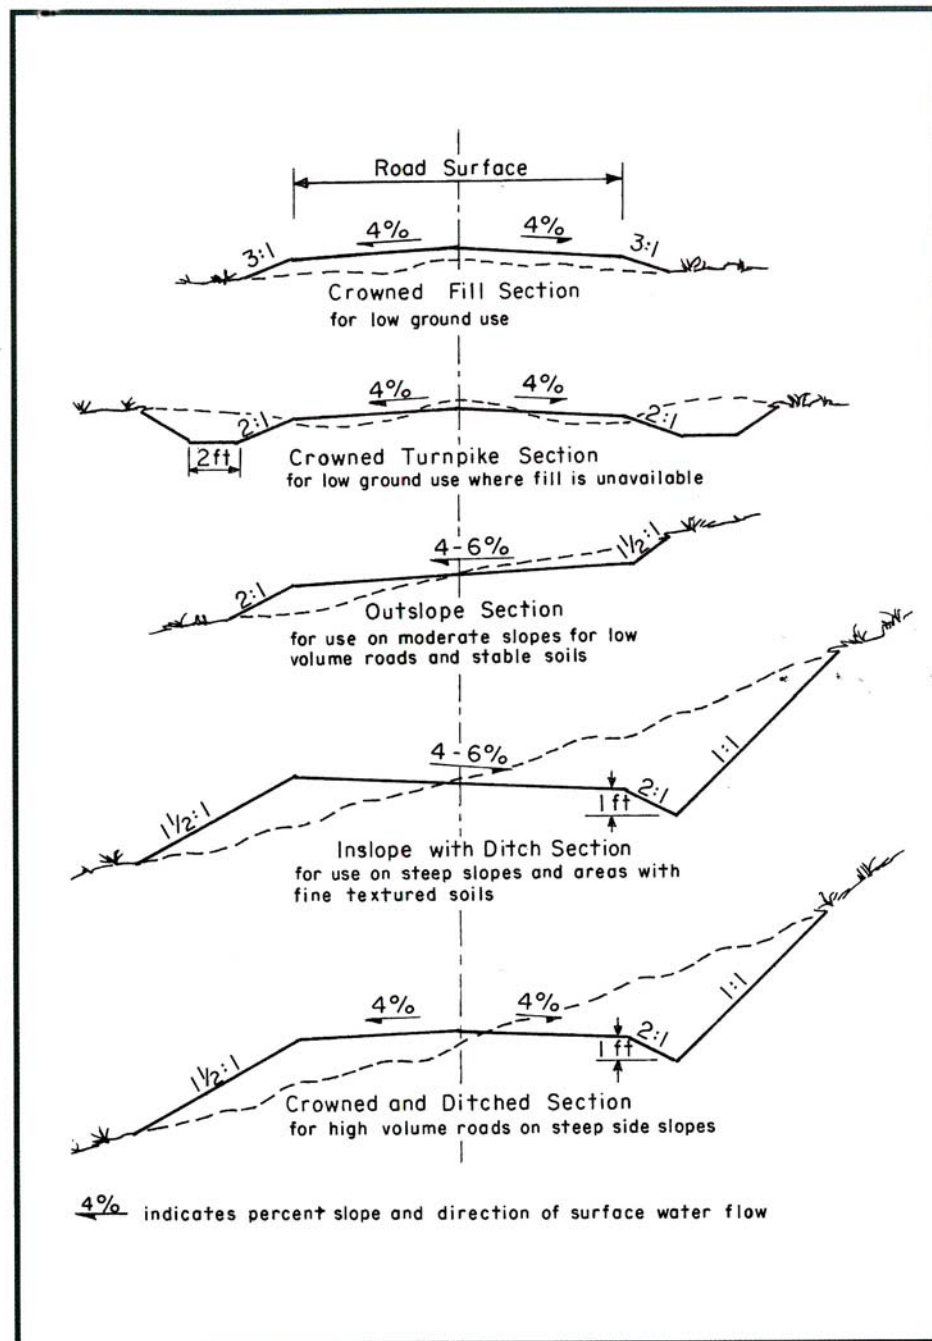

Figure 4. BMP Construction Road Techniques Based on Slope and Soils.
A road grade of 2% to 10% is desirable. A hand level should be used to avoid problem areas and maintain the desired grade of the road. Grade and slope are expressed as the amount of vertical rise, divided by the horizontal distance traveled, multiplied by 100. Check the grade frequently with the hand level. A single stretch that is too steep or a flat area that will not drain may result in road erosion. Where the terrain is relatively flat, the person laying out the road should strive to maintain a minimum 2% slope to maintain adequate drainage of runoff. Also, roads in low topography areas should be crowned (as shown in Figure 4), to allow for water to drain off the road, to lessen the chance of rutting and ponding.
- ▶ Outslope (see Figure 4) the entire width of the road where road gradients will permit.
- ▶ Inslope the road toward the bank, as a safety precaution, on sharp turns, road gradients of 15% or greater, and on clay and/or slippery soils (see Figure 4).
- ▶ Where roads are insloped (see Figure 4), cross drain runoff 25 feet up-grade of any short stretches of road where gradients exceed 10%.
- ▶ In areas having little or no slope, road drainage is often a problem. However, crown these sections of road (see Figure 4) to get the water off and away from the roadway.